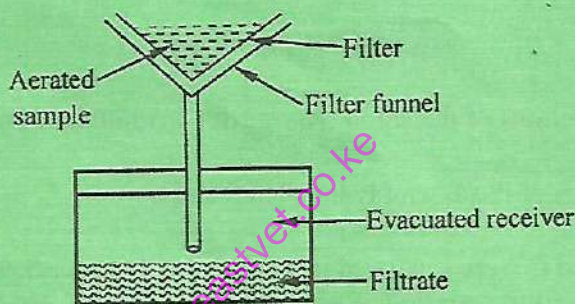

Fig. 4
8. The set-up in Figure 4 was used to de-gas a sample before analysis by HPLC.